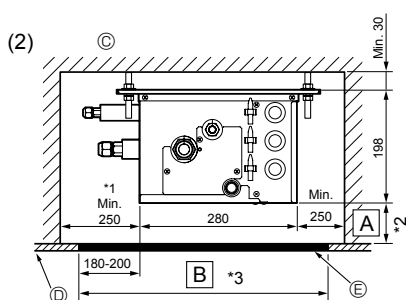
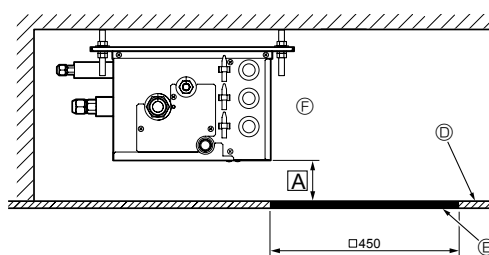

Fig. 2-2
Fig. 2-3
(2) Side View (Fig. 2-2, Fig. 2-3)
In the case of "□ 450", prepare a maintenance hole at a PCB side as it is shown in Fig. 2-3, and "Min. 300 mm" is needed as distance Ⓐ.